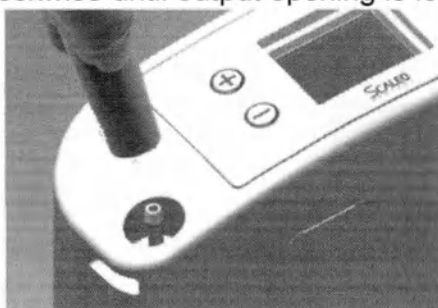

Figure 1: Output opening loosening instruction
1. Insert special Wrench (kit for filter output replacement) into the output opening and and turn slowly in counterclockwise until output opening is loose as shown (Figure 1).